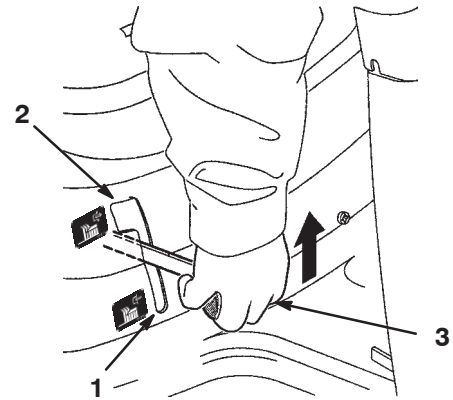

Figure 6
3. Shift the blade control (PTO) lever to Disengage (Fig. 6).